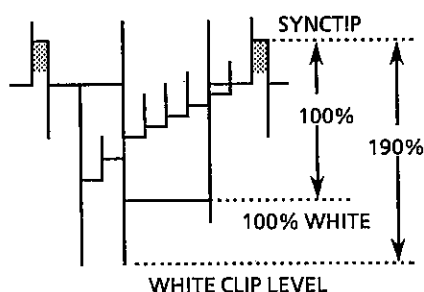

Figure 5-4.
1. Connect a oscilloscope to Pin (48) of IC401 and GND.
3. Make sure that the overshoot of the video signal is clipped at 190% as shown in Figure 5-4.